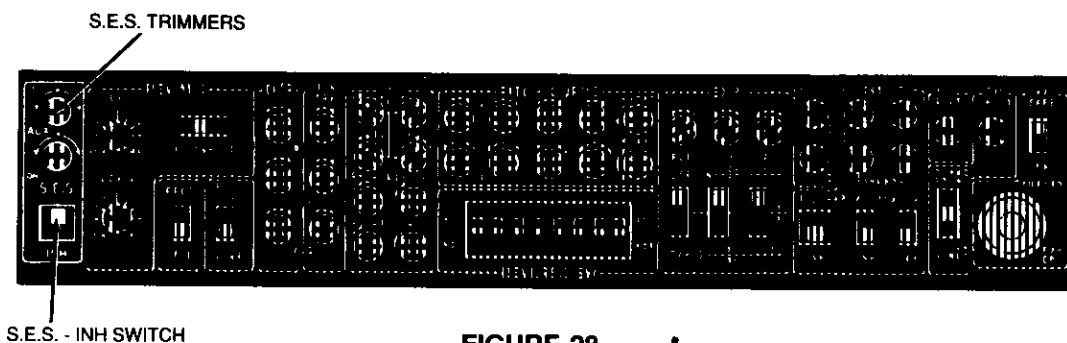

FIGURE 28
The S.E.S. is similar to the system used on the actual full sized Huey Cobra gun ship, and YH-60 Black Hawk helicopters, in that when the elevator control stick is moved up or down, the angle of the horizontal tail plane also changes. Separate trimmer adjustments are provided under the trimmer panel cover, Figure 28 for up and down trim of the tail plane. The auxillary potentiometer knob (32) at the top left side of the antenna mount can also be used to trim the tailplane servo while in flight. If the "INH-S.E.S." switch on the trimmer panel is placed in the "INH" (inhibit) position, the 8th channel can then be used as an auxillary function, and adjusted by use of the aux potentiometer knob (32).